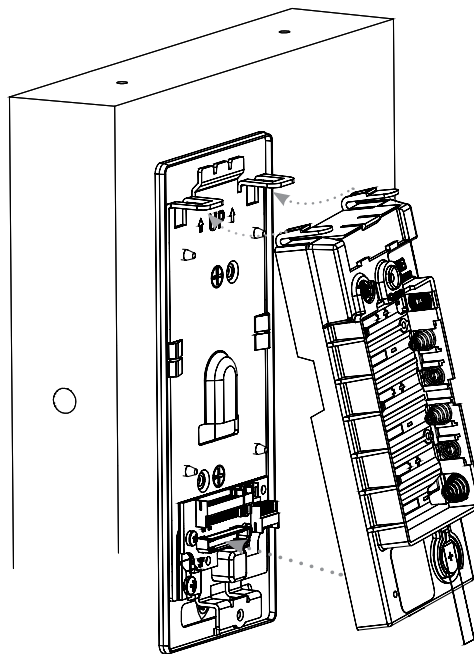

Fig. 10
1. Insert top tabs of controller into slots on mounting plate (Fig. 10).